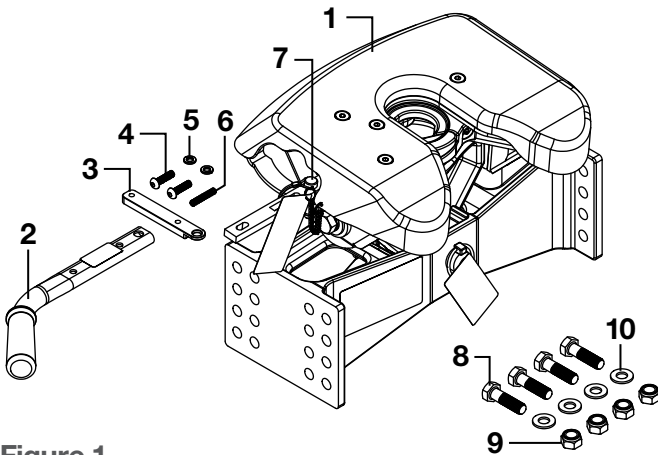

Figure 1
Attach the leg weldments to the mid-section with the supplied hardware, 'Parts List' items 8, 9 and 10. See Figure 1.